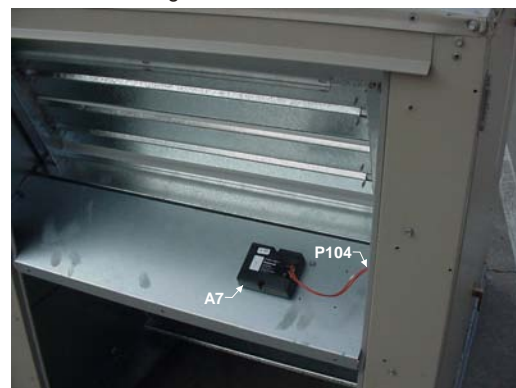

Figure 2
4. The economizer may use an A7 enthalpy sensor located on the division panel between the economizer outdoor air and return air dampers. If present, the sensor must be moved to the intake air section of the ERS. Disconnect sensor plug P104, remove screws securing the sensor, and retain sensor assembly and screws. Push sensor jack J104 through economizer support wall. See Figure 2.
8. Locate the A7 enthalpy control sensor (if removed earlier from the rooftop unit.) **See Figure 2.**